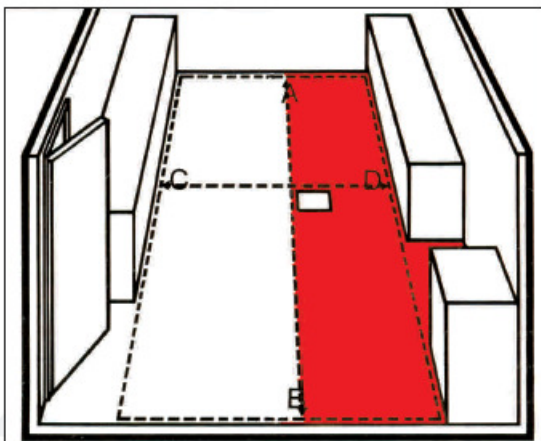

Fig 5
2.5 Place the first tile carefully at the intersection of the two chalk lines. **Refer to Fig 5.**